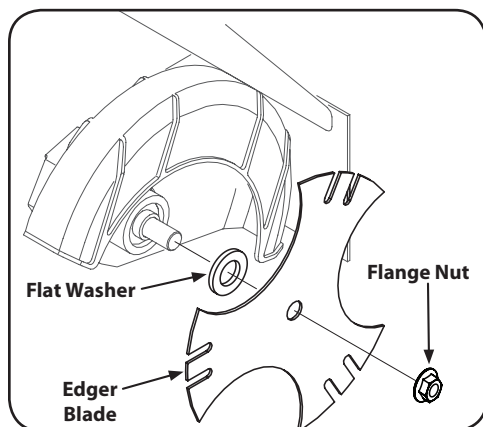

Figure 5-1
1. Use two wrenches (one wrench to prevent the hex bolt head from spinning and the other to remove the flange nut) to remove the edger blade. Refer to Figure 5-1.